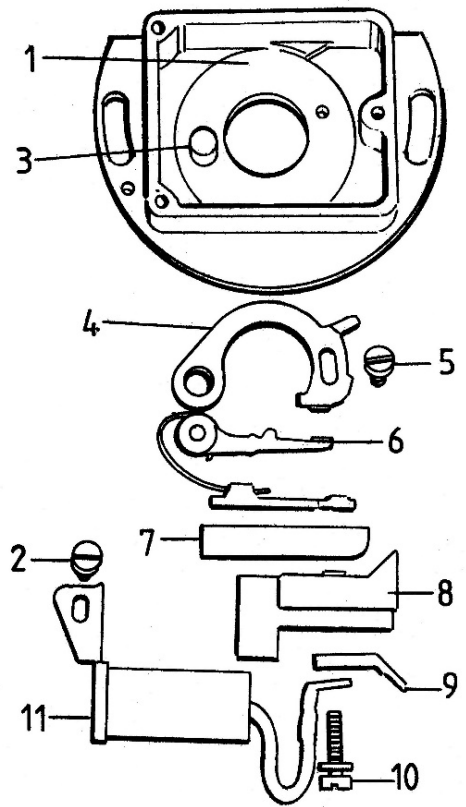
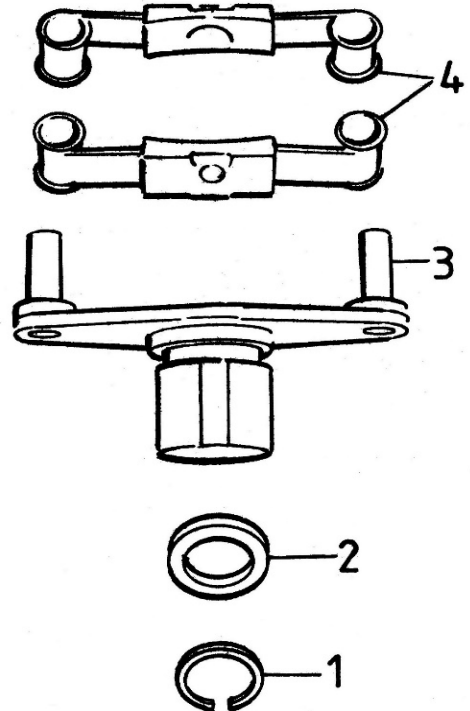

Fig. 1 Items fitted to points box (Courtesy of Haynes Publishing)
Fig. 2 Items fitted behind points box (Courtesy of Haynes Publishing)
A. The eleven items fitted to the points box per Fig. 1:
10. Screw and washer to secure items 6 – 9 and the connecting wire from 11 (Photo 15)
B. The four items fitted behind the points box per Fig. 2:
1. Take your points ignition spare parts from the spares box. Ensure you have all the parts shown in Figs. 1 and 2 and photo 3. Keep an eye on the spring circlip as it is small, springy(!) and very easily lost!